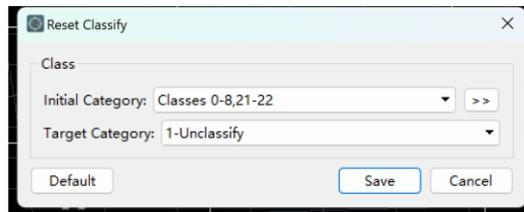

Figure 3-128 Reset classification
1. Click menu <Process> → <Reset Classify> on the main interface to bring up the dialog box (Figure 3-128) in which you can set the original category and target category for reset.
1. Click menu <Process> → <Noise Filter> on the main interface to bring up the dialog box (Figure 3-128), in which you can set the noise detection method, search radius and the minimum number of points within the search radius.